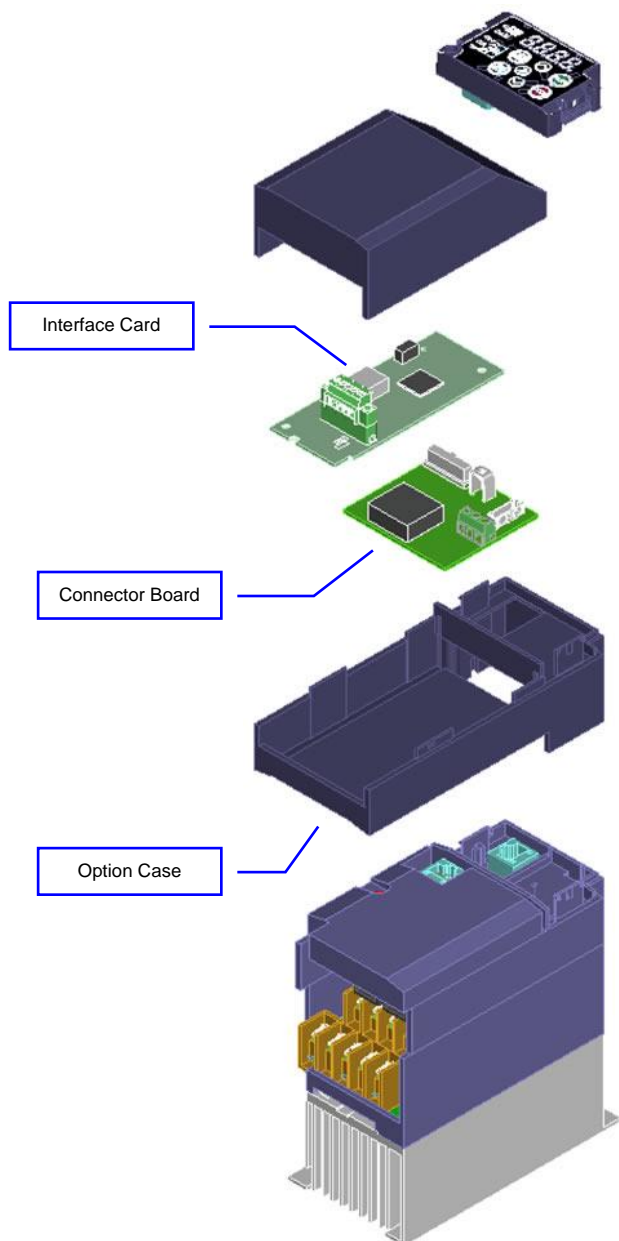
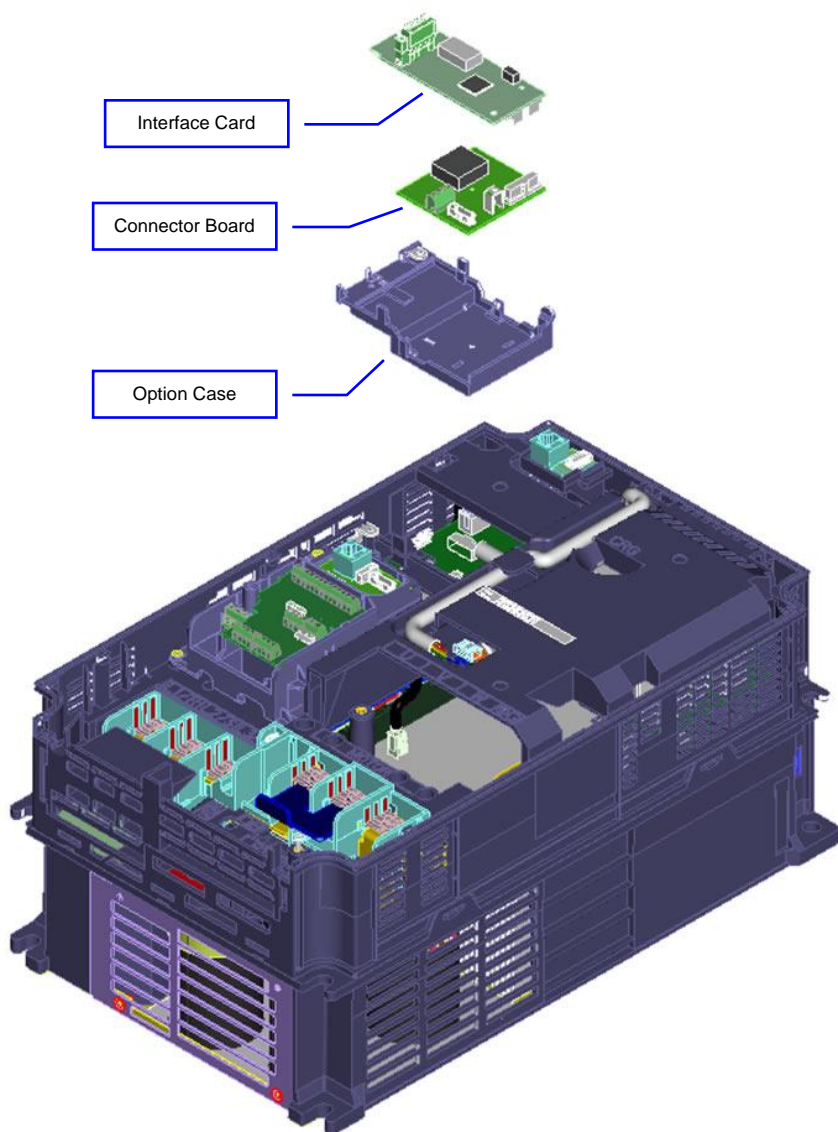
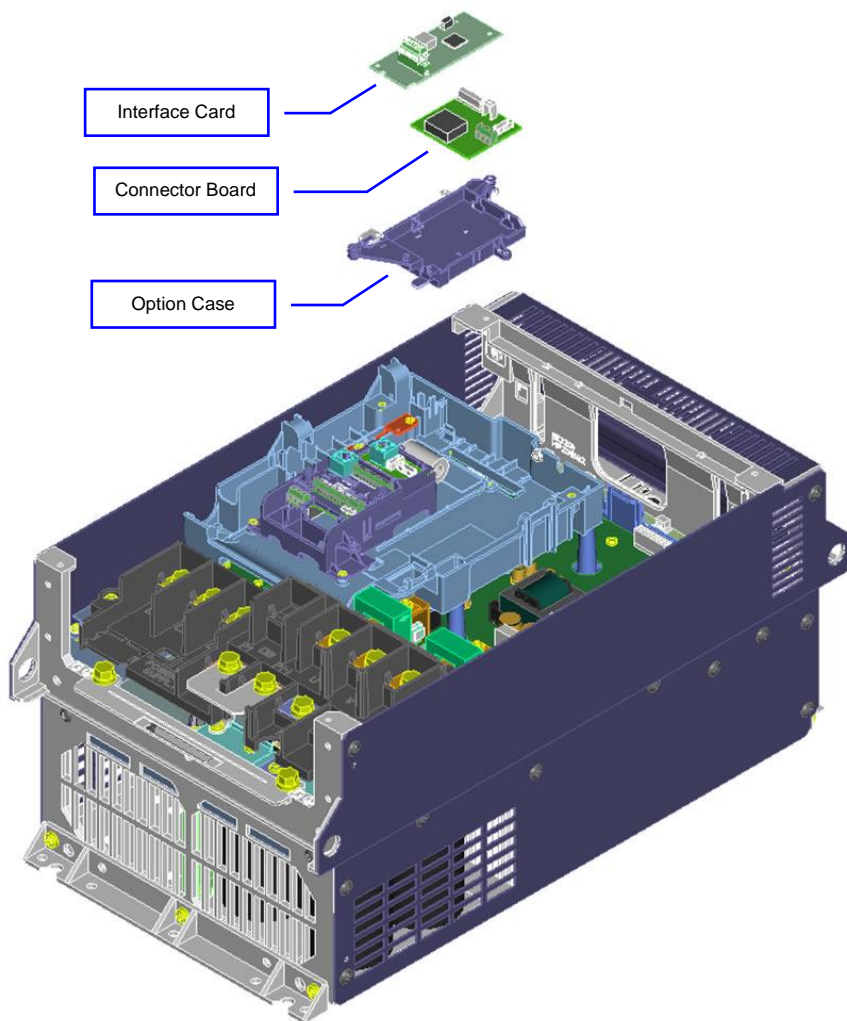

Figure 7: Installation for 15 kW and Smaller Inverters
Figure 8: Installation for 18.5 kW to 22 kW Inverters
Figure 9: Installation for 30 kW and Larger Inverters
1. Remove the front cover from the inverter to expose the control printed circuit board (control PCB). Install the interface card according to the inverter capacity as shown in Figure 7, Figure 8, or Figure 9. Otherwise, refer to the FRENIC-ACE Instruction Manual or contact technical support for the appropriate installation instructions.